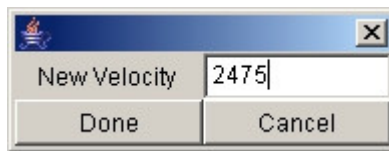

Figure 41: Window to enter new constant velocity for area to be tuned
- To enter a new constant velocity, click on 'SetVel' button. The window shown in Figure 41 opens up